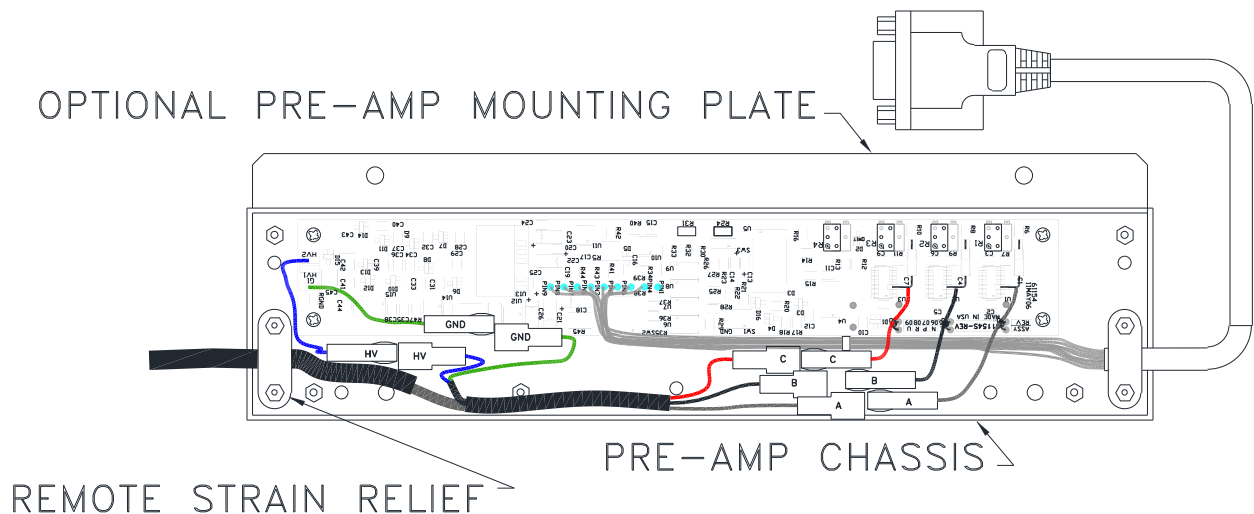

Figure 1: Step 3 - Location of remote strain relief
2. Remove the cover from the remote pre-amp chassis by removing the four (4) 4-40 X 3/16 screws.
3. Route the remote pre-amp cables through the strain relief in the remote pre-amp chassis and secure the strain relief using the two (2) 2-56 hex nuts. Refer to Figure 1.